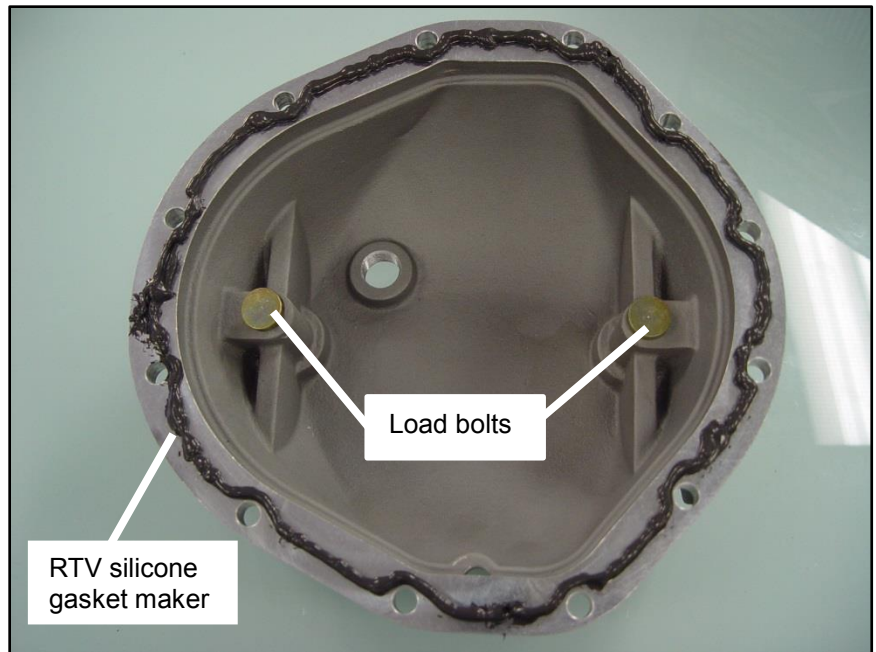

Figure 4
STEP 11. Apply a bead of RTV silicone gasket maker to the **B&M Cast Aluminum Rear End Cover**. Run the bead inside the bolt holes (See **Figure 4**).